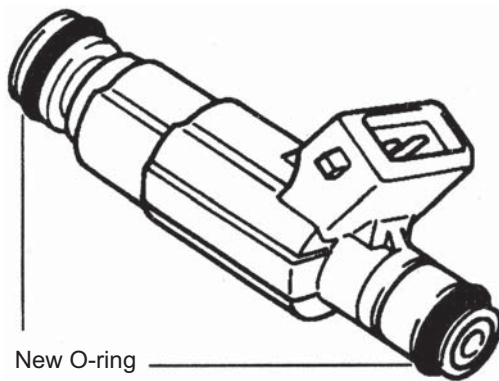

Figure 97
- (a) Smear a light layer of oil on two O-rings and install them to injector. See (Figure 97).